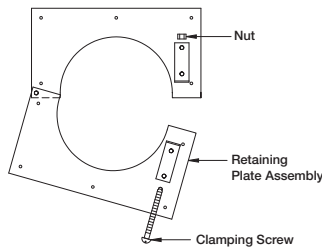

Figure 5 — Retaining Plate
- Use hardware provided to assemble the (2) halves of the retaining plate together on the side opposite the clamping screw. Refer to Figure 5.